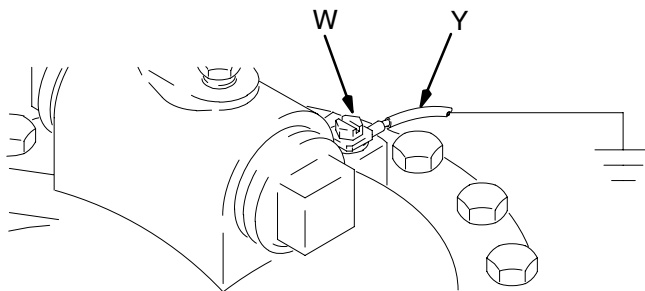

Fig. 1
- *Surge tank*: Connect a ground wire and clamp as shown in Fig. 1. Loosen the grounding screw (W). Insert one end of a 1.5 mm² (12 ga.) minimum ground wire (Y) behind the grounding screw and tighten the screw securely. Connect the clamp end of the ground wire to a true earth ground. Order Part No. 222011 Ground Wire and Clamp.